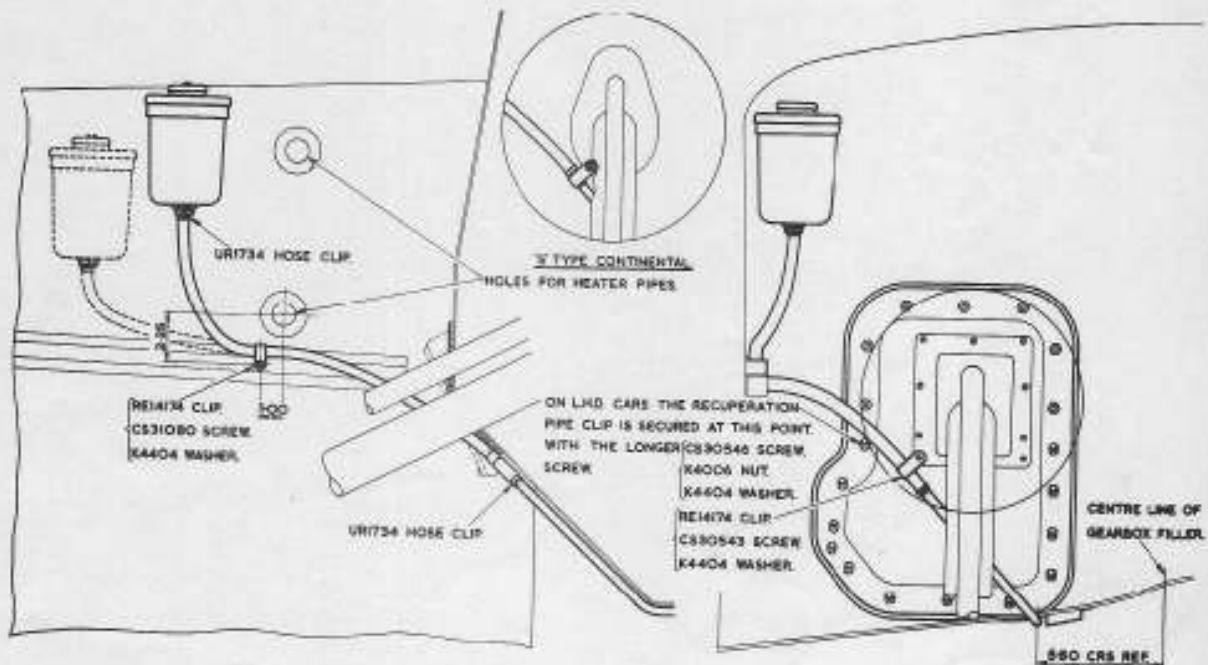

Fig.2.
Remove the wiring loom fitted along the right hand undersurface of the floor from its clips and ease it towards the side of the car to avoid damage when drilling the two  $3/16$ " dia. holes in the floor which are to be marked and drilled as indicated to take the new hose clip securing setscrews (Fig.1). Drill the  $1/8$ " dia. hole in the right hand valance as indicated (Fig.2).
Screw the master cylinder union nut finger tight and adjust the pipe for length to provide adequate clearance at the toe-board as indicated (Fig.1) and for angular displacement so that the pipe will align correctly at the master cylinder elbow and also at the steering column seal clip fixing (Fig.2). All adjustments for length and angle are to be made at the point previously described.
When satisfactory, tighten the clips on the short rubber hose, the master cylinder elbow union nut and where applicable, the master cylinder banjo union. Fit the longer of the two 2BA setscrews to the front clip and the shorter to the rear and fit the pipe securely to the undersurface of the floor. Note that the larger diameter clip is fitted to the rear and circumscribes the rubber hose and not the metal pipe as the front clip does. Connect the rubber hose from the reservoir to the metal recuperation pipe, tighten the hose clip and secure the hose to the valance with the self tapping screw in the hole drilled in the valance, and also to the floor board at the steering column seal with the longer screw provided, (Fig.2). On LHD cars, the clip is secured to one of the rivet nuts in the pedal gap plate as indicated, by replacing the existing setscrew with a longer one and securing the clip with a spring washer and nut. The reservoir hose should lie along the top edge of the valance stiffener for a short distance before running down to the recuperation pipe.
**NOTE:** The Continental Bentley will require a longer flexible hose from the reservoir to the recuperation pipe and consequently new hoses are provided. (The reservoir and part of the recuperation pipe for the Continental Bentley are shown dotted in Fig.2).